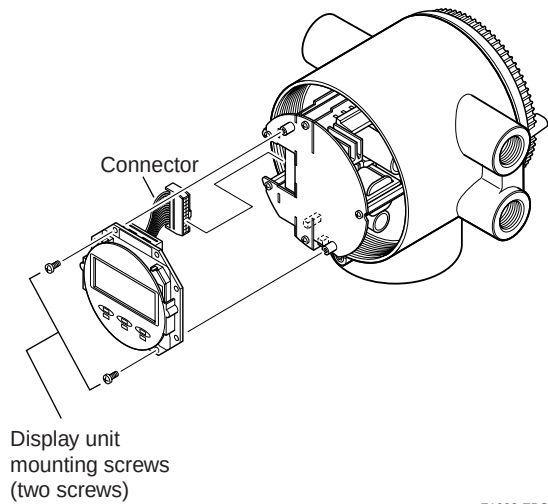

Figure 10.1.3 Removing and Assembling the Display Unit
- (3) Hold the display unit with your hand and remove the two mounting screws. Remove the connector of the display unit by pulling it to the left, taking care not to damage it (refer to Figure 10.1.3).